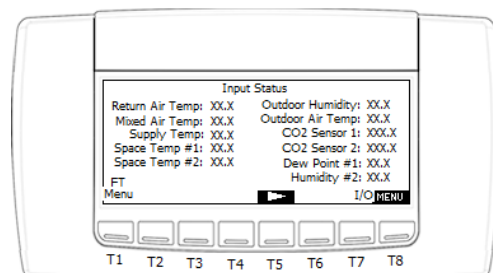

Figure 9. i-Controller Input Status Screen Page 1
**NOTE:** Visograph screens in (Figure 9 – 12) do not represent actual values. These images are only for illustration purposes.